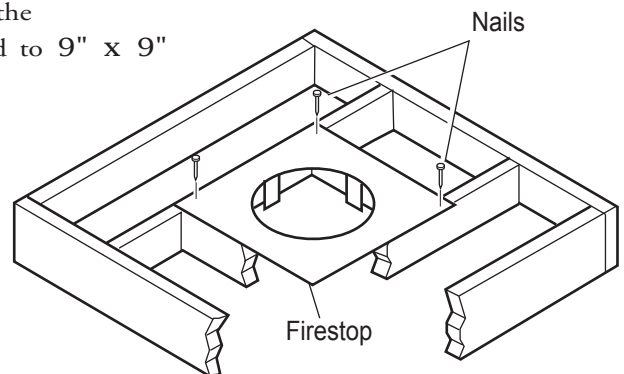
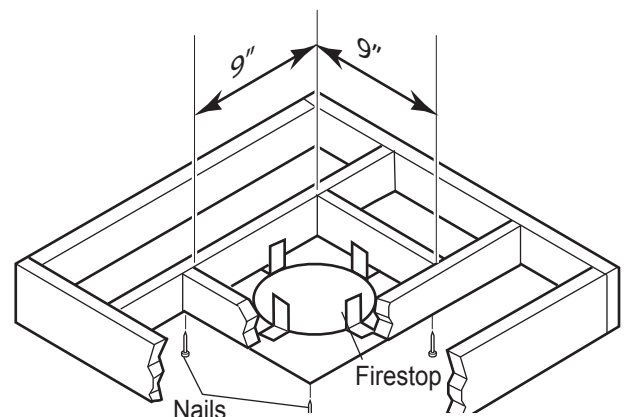

Figure 28- If area above is a room, install firestop above framed hole as shown
Figure 29 - If area above is not a room, install firestop below framed hole as shown
1. Cut a 9" x 9" (229mm) square hole in the ceiling using the locating hole as a center point. The opening should be framed to 9" x 9" (229mm x 229mm) inside dimensions as shown in Figure 12, page 17 using framing lumber the same size as the ceiling joist. If the area above the ceiling is an insulated ceiling or a room, nail firestop from the top side. This prevents loose insulation from falling into the required clearance space. See Figure 28. Otherwise, install firestop below the framed hole. The firestop should be installed with no less than three nails per side. See Figure 29.